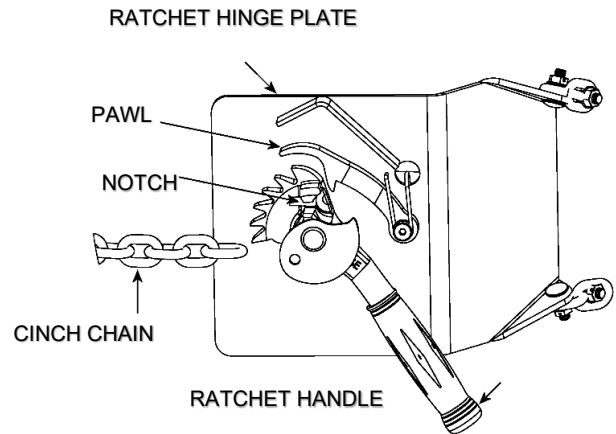

Figure 3.2
2. Using the "LIFT" control as described in "Machine Description - Controls" position the drum holder assembly with the back band at the middle of the drum. (Figure 3.2). With the ratchet plate swung open and the cinch chain hanging from the chain hook, push the unit until the back band rests firmly against the drum. Some adjustment to the tilt angle of the saddle may be necessary to ensure band fits flush on the drum.
3. **Attaching the drum:** Drape the chain across the front of the drum and engage a link into the notch in the ratchet (Figure 3.2). Turn the ratchet clockwise to tighten the chain. If the ratchet turns until the pawl is beyond the last ratchet tooth, turn the ratchet back and slide the next link into the ratchet notch and try tightening again. The chain must be held tightly against the drum with the pawl engaged securely in the ratchet teeth.